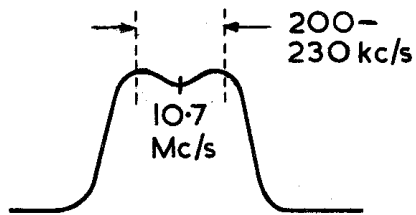

FIG. 1
1. Connect probe to anode of V3 (pin.7). Inject sweep generator into V2 grid pin 2 and adjust L14 and L15 for double humped curve as in Fig.1, symmetrically displaced about 10.7 Mc/s. Adjust input as necessary.